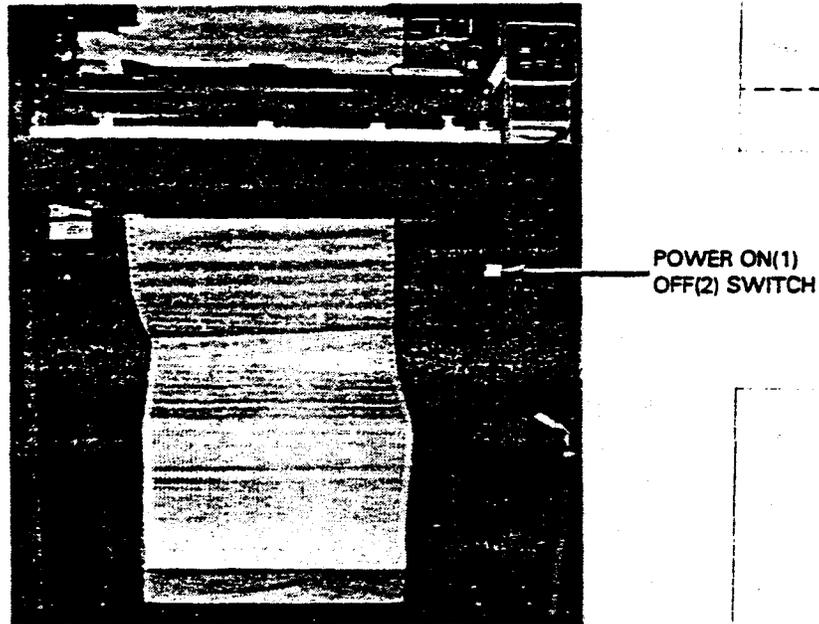

Figure 4-1. 0789 Printer POWER Switch Location
1. Set the POWER ON/OFF switch (Figure 4-1) to the ON position (lower right front door must be opened to operate POWER ON/OFF switch).
2. Set the POWER ON(1)/OFF(0) switch (Figure 4-1) to ON(1).